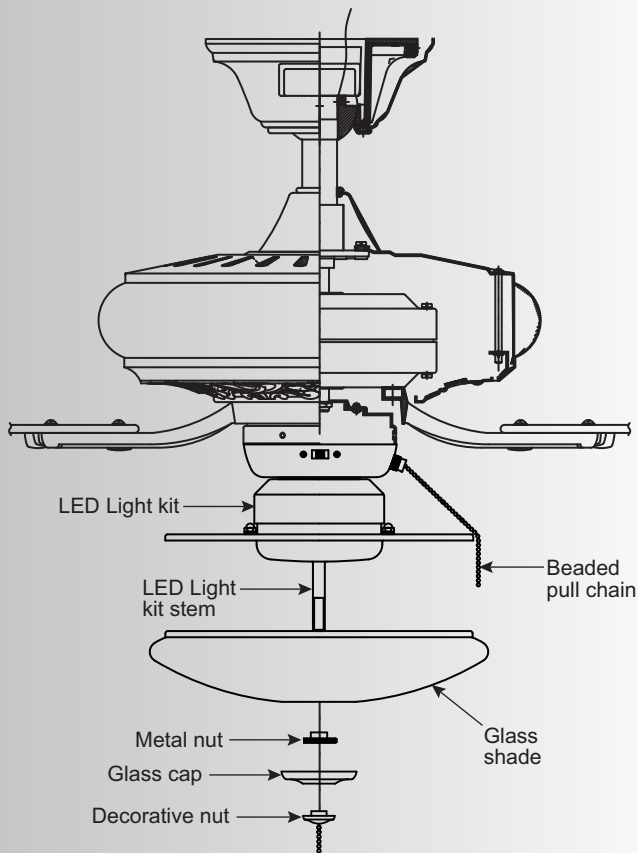

Fig. 3
1. Remove the decorative nut, glass cap and metal nut from the LED light kit. Place glass shade over the LED light kit stem, secure with the metal nut (rubber side on the top), add the glass cap and decorative nut. Do not overtighten. (Fig. 3)